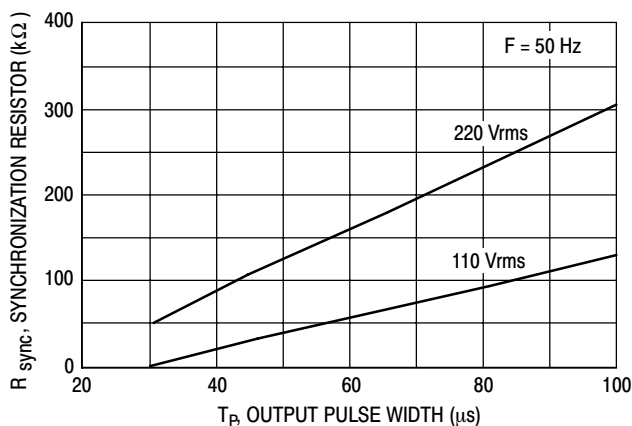
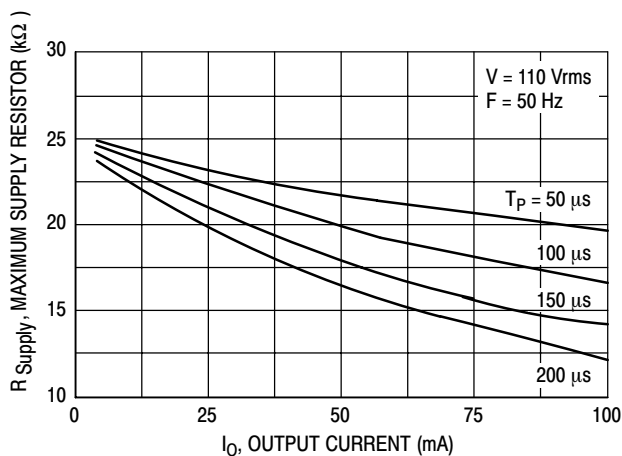

Figure 9. Synchronization Resistor versus Output Pulse Width
Figure 11. Maximum Supply Resistor versus Output Current
With the output current and the pulse width determined as above, use Figures 9 and 10 to determine RSupply, assuming that the sinking current at Vref pin (including NTC bridge current) is less than 0.5 mA. Then use Figure 11 and 12 to determine the filter capacitor (CF) according to the ripple desired on supply voltage. The maximum ripple allowed is 1.0 V.